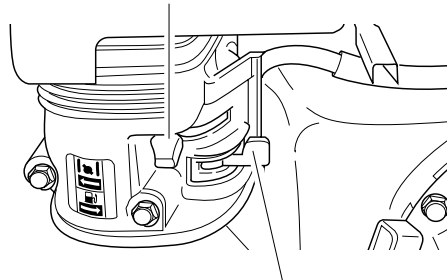
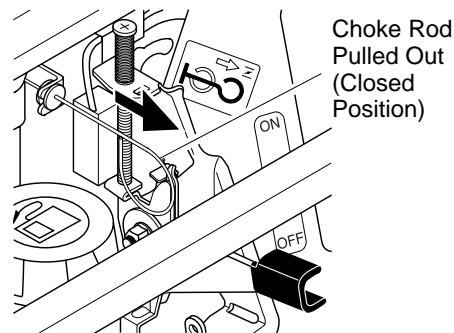
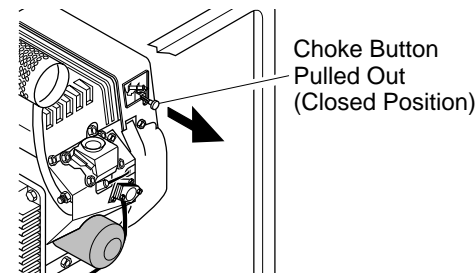

Figure 19 - Fuel Valve Lever On, Choke Lever Closed (Model MGH4000C Shown)
Figure 20 - Choke Rod Closed (Model MGH3000PR Only)
Figure 21 - Choke Button Closed (Model MGH10000A Only)
2. Move fuel valve lever to the ON position except on Model MGH3000PR (see Figure 19).
3. Move choke lever fully to the left for all models except MGH3000PR or MGH10000A (see Figure 19). Pull choke rod out for Model MGH3000PR (see Figure 20) or choke button out for Model MGH10000A (see Figure 21). This closes the choke.